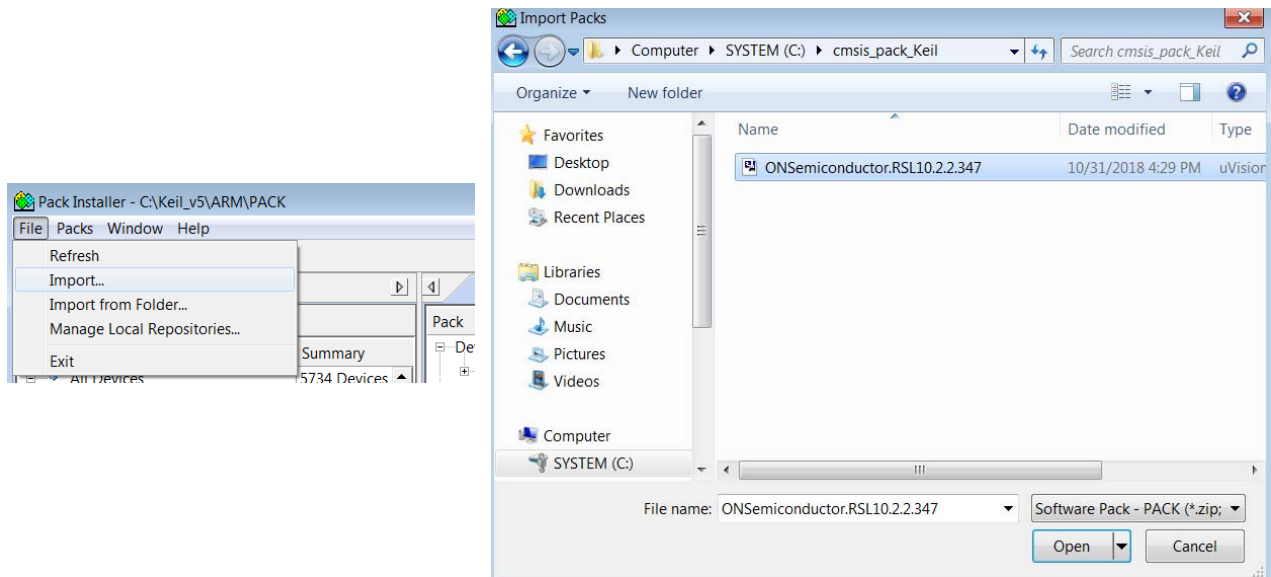

Figure 17. Installing the RSL10 CMSIS-Pack for the Keil μ Vision IDE
2. Click on **File > Import**, select your pack file *ON Semiconductor.RSL10.<version>.pack*, and click **Open** (see Figure 17). *<version>* is the RSL10 version, such as 2.2.347.